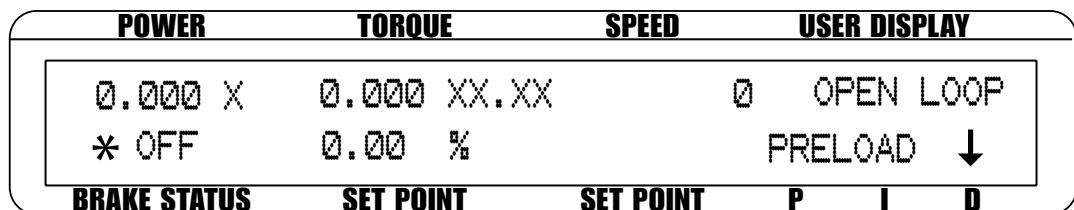

Fig.6-5 Preload Function Enabled
5. If the preload function is enabled, "\*" indicator will be displayed as shown in *Figure 6-5 Preload function enabled*.